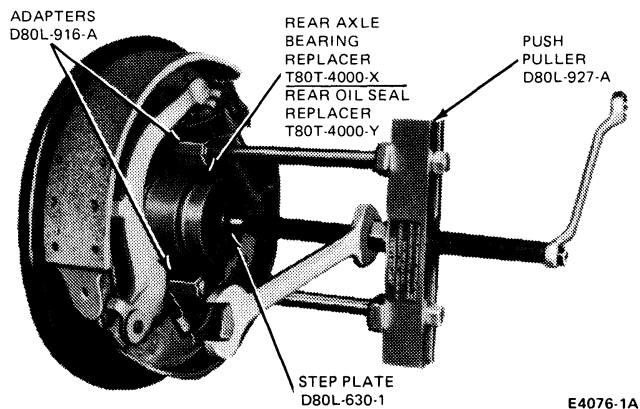

FIG. 7 Installing Rear Axle Bearing/Rear Oil Seal Dana Model 60 Semi-Floating Axle
D80L-927-A, adapters D80L-916-A, step plate D80L-630-1 and rear axle bearing replacer T80T-4000-X as shown in Fig. 7. An alternate method of installing the bearing is to drive the bearing into place with rear axle bearing replacer, T80T-4000-X and driver handle, T80T-4000-W.
3. Install a new oil seal in the bore using push puller D80L-927-A, adapters D80L-916-A, step plate D80L-630-1 and rear oil seal replacer T80T-4000-Y as shown in Fig. 7. An alternate method of installing the seal is to drive the seal into place with rear oil seal replacer T80T-4000-Y and driver handle, T80T-4000-W.